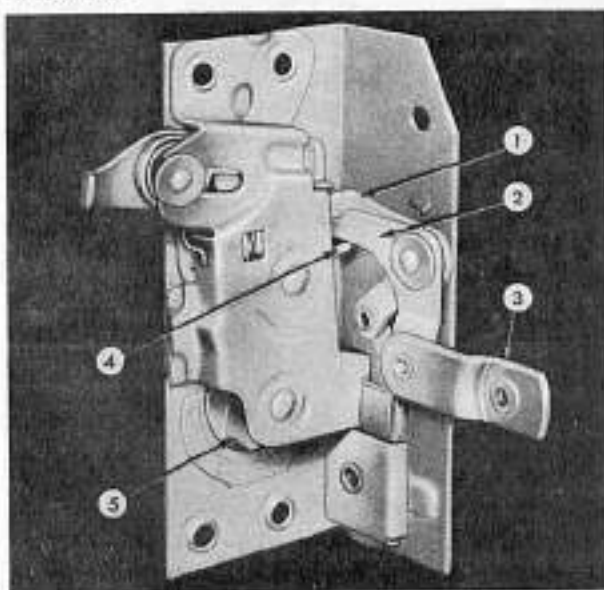
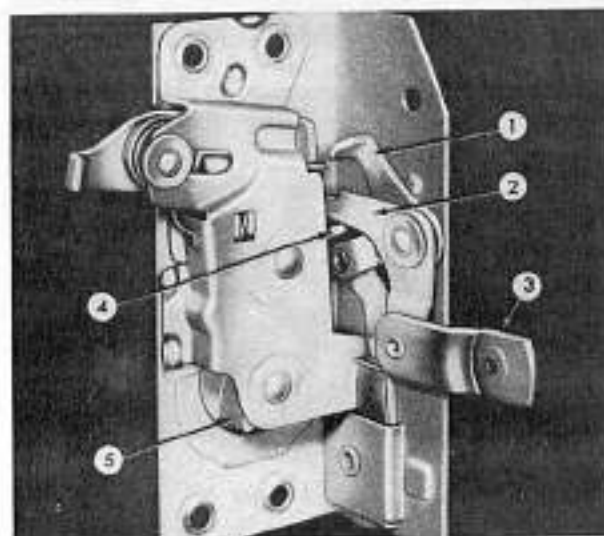

FIG. 365
FIG. 366
The front door lock assembly has been redesigned so that either front door, if locked from the inside, can now be unlocked with a key from the outside. Fig. 365 illustrates the position of the levers in the unlocked position. In Fig. 366 the levers are in the locked position. The same lever is employed when the door is locked from either the inside or outside instead of the two locking levers which were used on former models.
When locked from the inside, the remote control lever (2, Fig. 366) pushes the lock lever (1) into the locked position and then returns to the neutral position due to the spring on the remote control. Then, when the door is unlocked from the outside the lock lever is pulled down out of the locked position without interference.